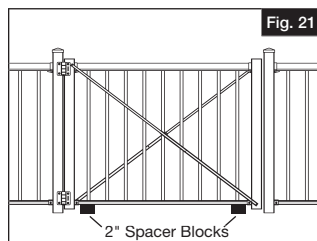

Fig. 21
- Flip rail over. Repeat instructions 7a–7d, being sure to install second brace on opposite side of gate, and opposite orientation of brace making an "X" (Fig. 21).
- Place two 2" tall wood blocks (not included) under the bottom rail of the gate. Align gate between the posts (Fig. 21).